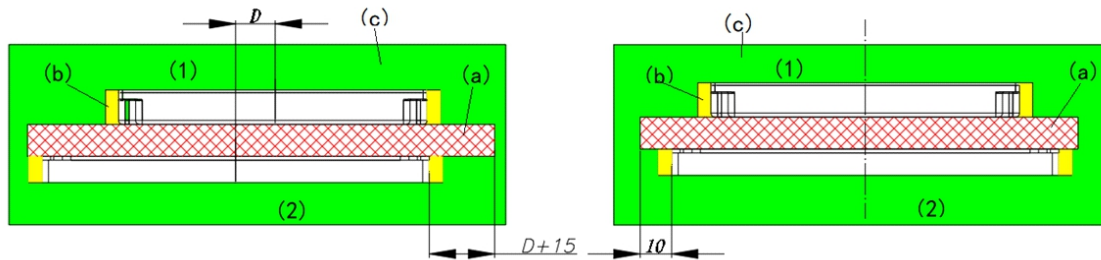

Fig 6 – Detailed hazard zone - with and without coil displacement(all measurements are in mm)
- When the coils are not directly aligned vertically but are offset by a distance D , the danger zone (a) expands accordingly, as shown in Figure 6.
Step 1: With the power off, install the transmitter and receiver respectively according to Figure 6. Connect the input terminal of the transmitter to a 220V AC power supply via a circuit breaker or a switched power strip (ensure the breaker or power strip remains in the OFF position).